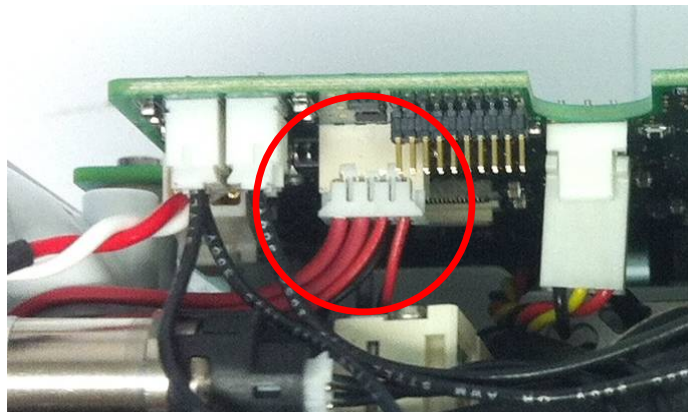

Figure 12: Orientation of product manifold cable
3. Reconnect the manifold cable to the motherboard, making sure to orient the connector with the thicker cables on the left (Figure 12). Assure proper connection of the pins.